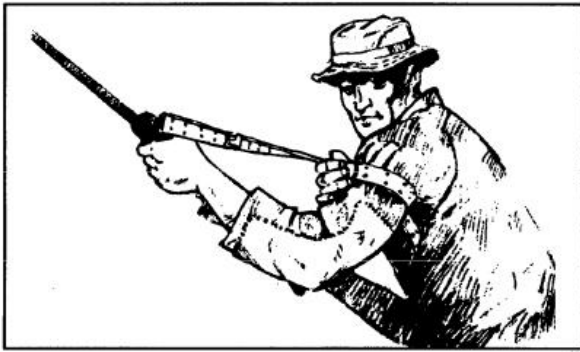

Figure 2-11. Placing the sling around the nonfiring arm
(5) The sniper slides the loop in the large section of the sling up the nonfiring arm until it is just below the armpit (Figure 2-11). He then slides both leather keepers down the sling until they bind the loop snugly round the nonfiring arm.